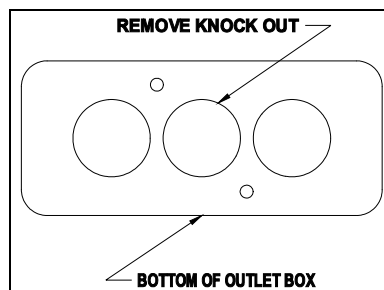
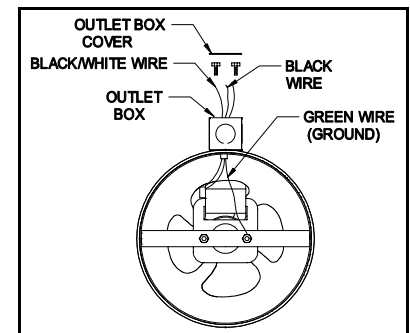

Figure 3A
Figure 3B
4. (Complete this step for KS-5, KS-6 & KS-8 ONLY.) Remove center knockout from the outlet box bottom. (See Figure 3A) Before installing the EVENAIR® into the duct pipe, fasten the outlet box onto the unit housing with the #10-32 UNF screws and nuts provided. (See Figure 3B)